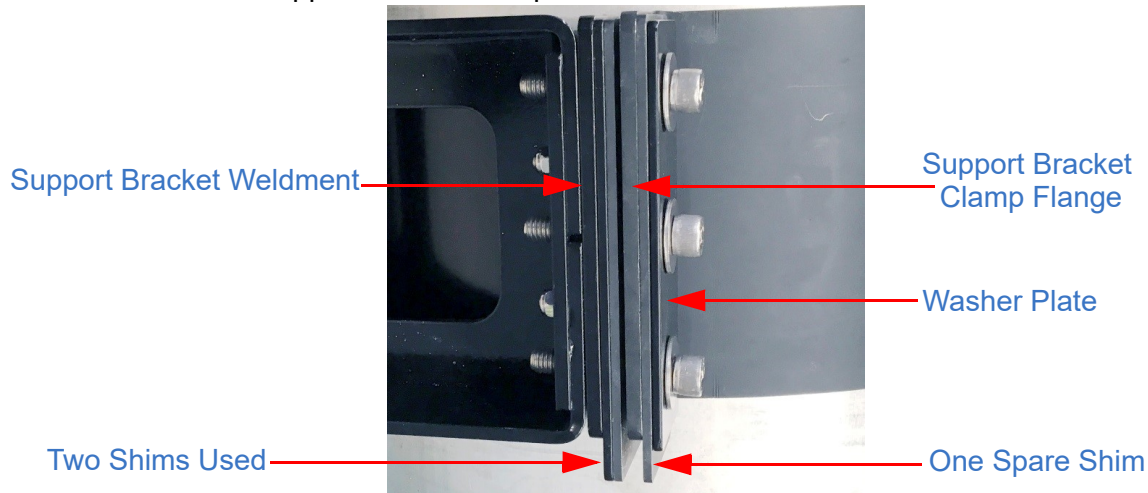

Figure 5-9 Shims Inserted (Shown with Two Shims Used and One Spare)
- f. Release the support bracket clamp and insert the estimated number of shims between the support bracket clamp and the support bracket weldment (Figure 5-9). Do not pull out on the support bracket clamp. If a shim does not easily fit between the support bracket clamp and support bracket weldment, that shim is not necessary, and should not be used. Any unused shims should be inserted between the support bracket clamp and the washer plate. The shims should be inserted so that the bottom of the shims hangs down below the bottom of the support bracket clamp.